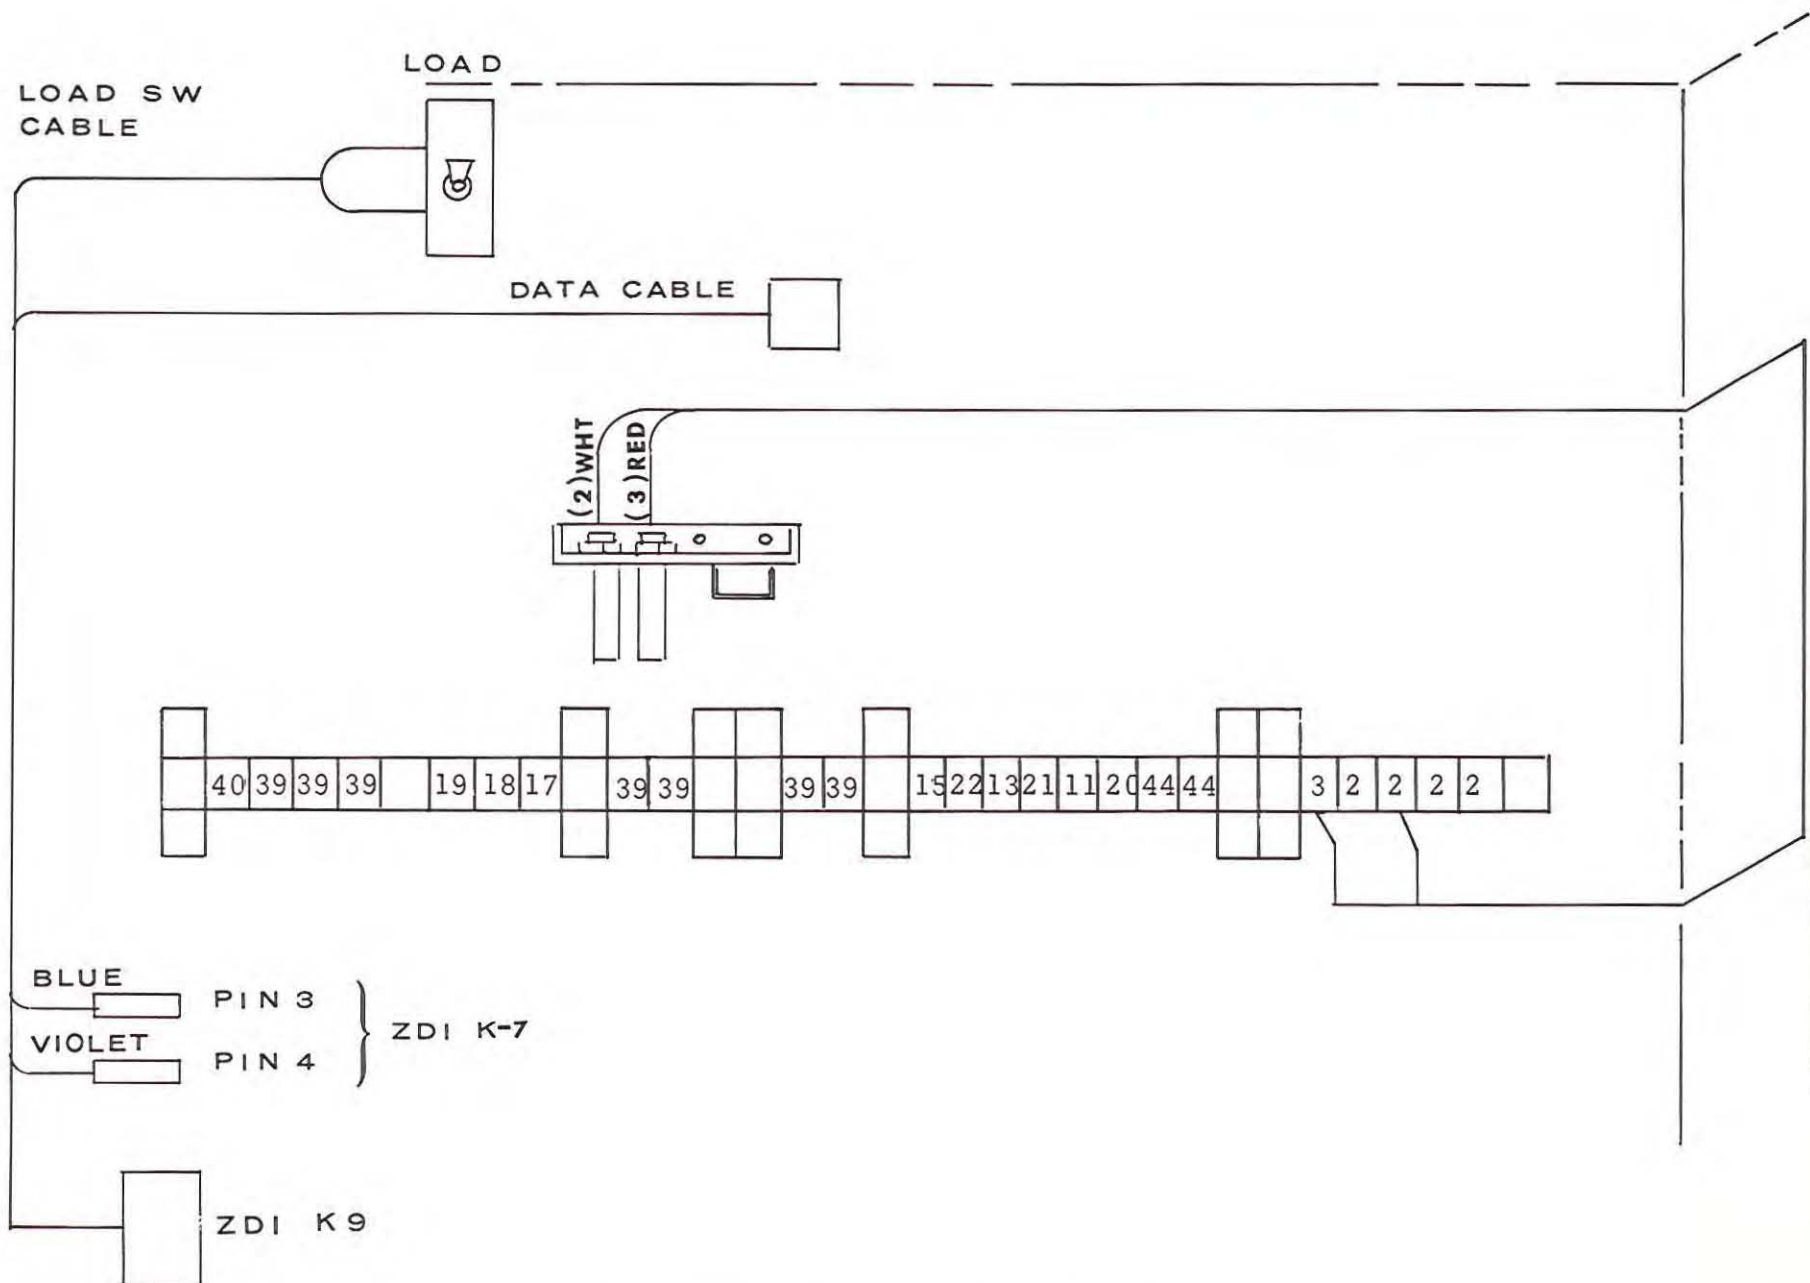

Figure 7-1 Tape Reader Data Cable
- b. Remove the access panel and unplug K-9 on the ZDI board. Remove the K-9 connector cable from the cabling harness starting at the PCC board end and working up until it's free of the harness. (Figure 7-1)
7.2.2 Installation of the Remote Tape Reader Panel and Associated Hardware: (Ref. Figures 7-1 and 7-3)
- b. Connect wires #2 and 3 as shown in Figure 7-1. Harness them with the cable which runs down the rear right side of the cabinet.